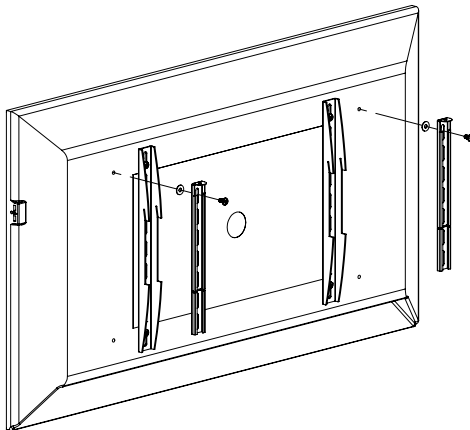

Figure 9 - Components in line with mount holes
4. Take two (2) nylon washers and align them with the topmost unused holes. They should be evenly spaced from the center (figure 9). If you have more than one set available, use the widest set.